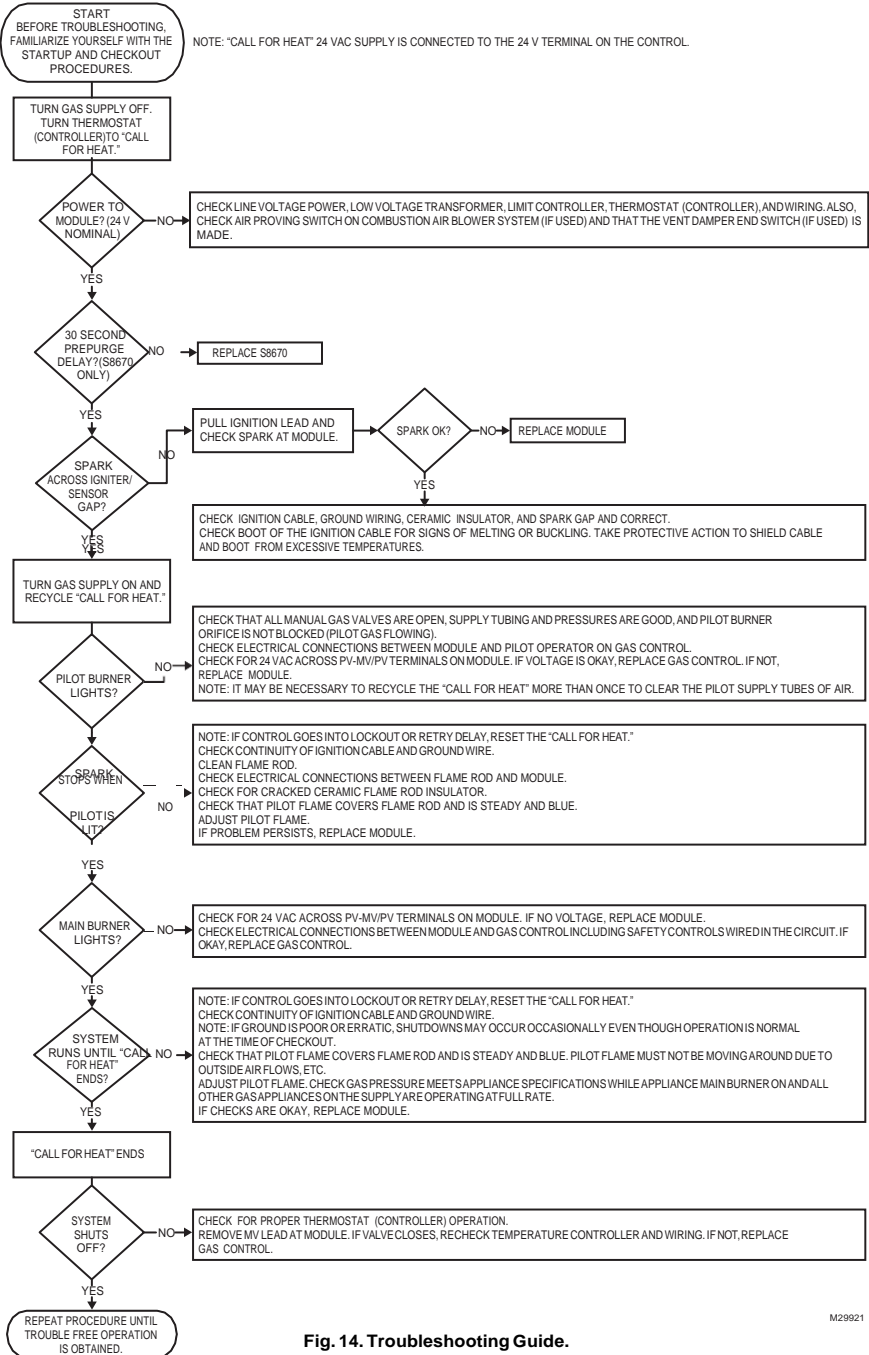

Fig. 14. Troubleshooting Guide.
- If main burner doesn't light or if main burner lights but system locks out, check the control, ground wire and gas control as described in "Troubleshooting" on page 10 and refer to the Troubleshooting Guide (Fig. 14).
Refer to the following guide for troubleshooting (Fig. 14).